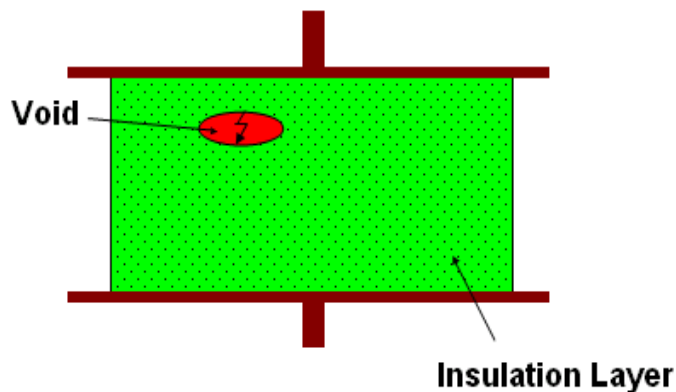

Figure 1: A partial discharge in the insulation layer due to void
Partial discharge (PD) is a localised dielectric breakdown of a small portion of a solid or fluid electrical insulation system under high voltage stress, which only partially bridges the insulation between conductors. Figure 1 shows a schematic of partial discharge system in insulation layer. When the electric field strength exceeds the breakdown strength of the dielectric medium, partial discharge occurs. Partial discharge can occur at any location within the insulation system. Partial discharge can occur in voids, across the surface of insulating material due to contaminants or irregularities, within gas bubbles in insulation or around an electrode in gas i.e. corona activity. When partial discharge activity occurs, it emits energy in the form of 1) electromagnetic i.e. light, heat and radio form, 2) acoustic i.e. audio and ultrasonic and 3) gases i.e. ozone and Nitrous oxides.